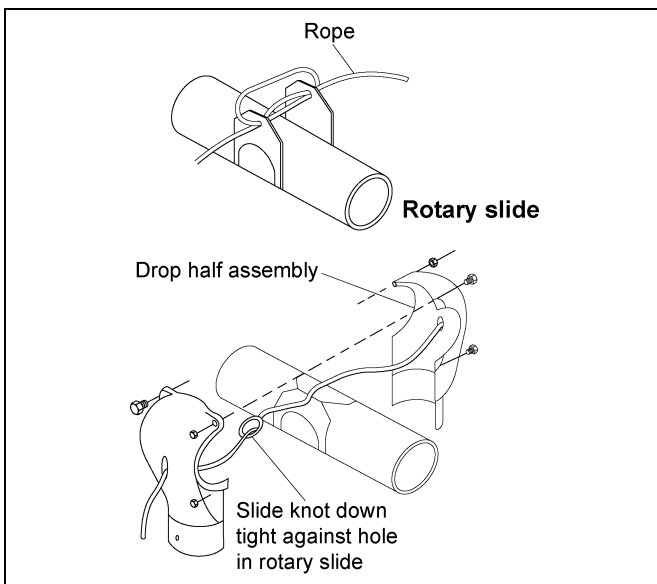
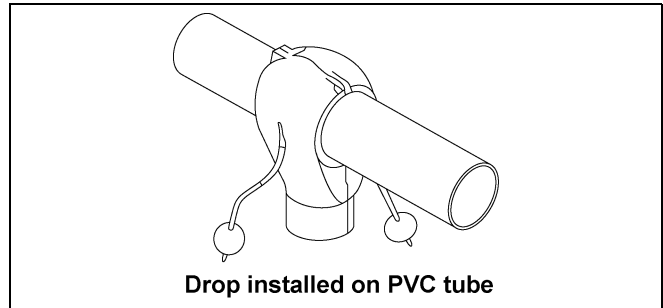

Figure 1B
Figure 1C
3. Thread the rope through the ends of the rotary slide as shown in Figure 1B and tie the slide ends together so that the ends of the rope are the same length.
5. Snap a hex nut in each of the four (4) hexagon shaped sockets on the drop halves. Push machine screws in the corresponding holes in each outlet half.
6. Fasten the two (2) halves together using screws threaded into the drop halves. See Figure 1C.